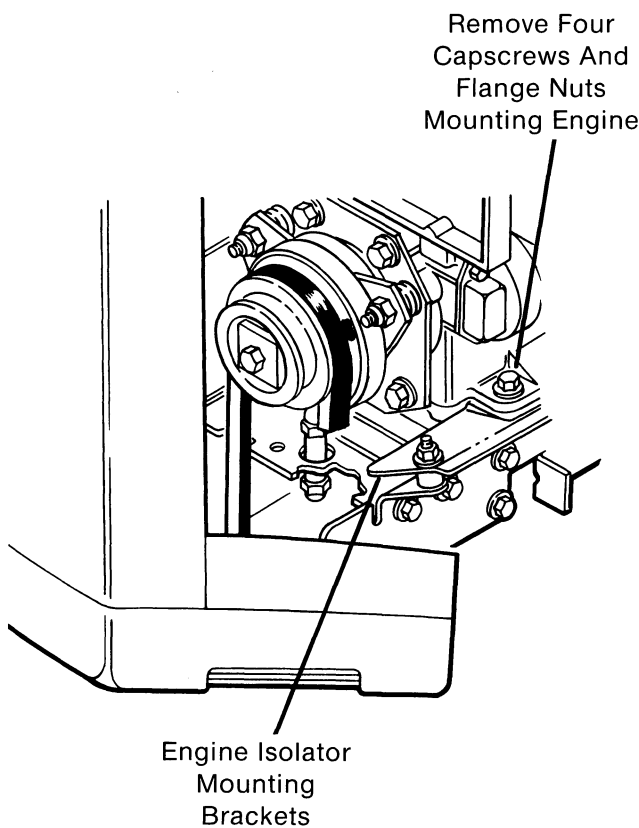

FIG. 6
- M. Remove four capscrews and flange nuts securing engine to engine isolator mounting brackets. (Fig. 6)